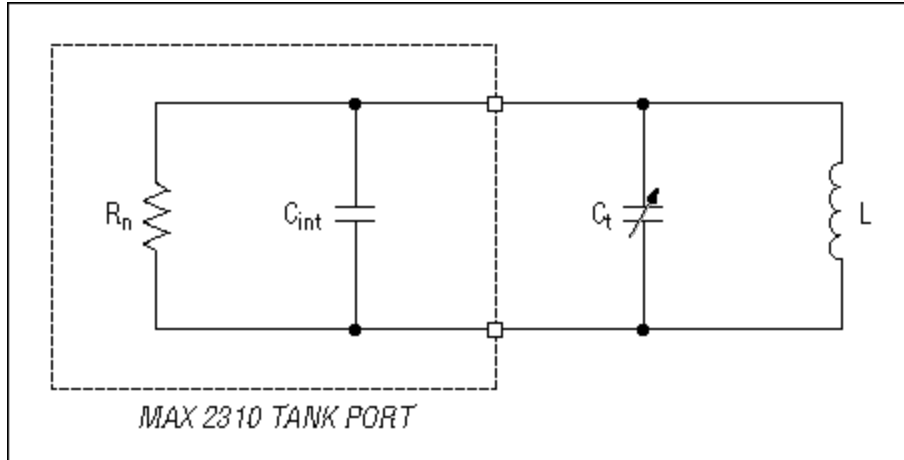
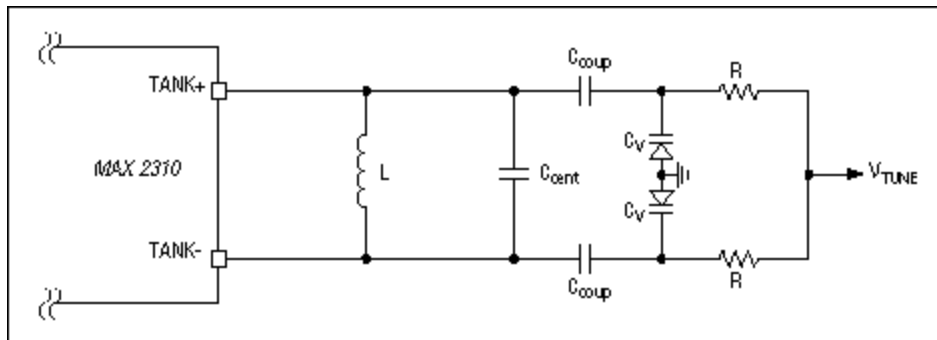

Figure 1. Basic VCO model.
Figure 2. The MAX2310 tank circuit.
**Figure 2** shows the differential tank circuit used for the MAX2310 IF VCO. For analysis purposes, the tank circuit must be reduced to an equivalent simplified model. **Figure 1** depicts the basic VCO model. The frequency of oscillation can be characterized by EQN1:
Inductor  $L$  resonates with the total equivalent capacitance of the tank and the internal capacitance of the oscillator ( $C_t + C_{int}$ ) (see Figure 1).  $C_{coup}$  provides DC block and couples the variable capacitance of the varactor diodes to the tank circuit.  $C_{cent}$  is used to center the tank's oscillation frequency to a nominal value. It is not required but adds a degree of freedom by allowing one to fine-tune resonance between inductor values. Resistors ( $R$ ) provide reverse-bias voltage to the varactor diodes via the tune voltage line ( $V_{TUNE}$ ). Their value should be chosen large enough so as not to affect loaded-tank  $Q$  but small enough so that  $4kTBR$  noise is negligible. The resistors' noise voltage gets modulated by  $K_{VCO}$ , producing phase noise. Capacitance  $C_v$  is the variable tuning component in the tank. The capacitance of varactor diode ( $C_v$ ) is a function of reverse-bias voltage (see Appendix A for the varactor model).  $V_{tune}$  is the tuning voltage from a phase-locked loop (PLL).
Tuning gain ( $K_{VCO}$ ) must be minimized for best closed-loop phase noise. Resistors in the loop filter as well as the resistors "R" (Figure 2) will produce broadband noise. Broadband thermal noise (